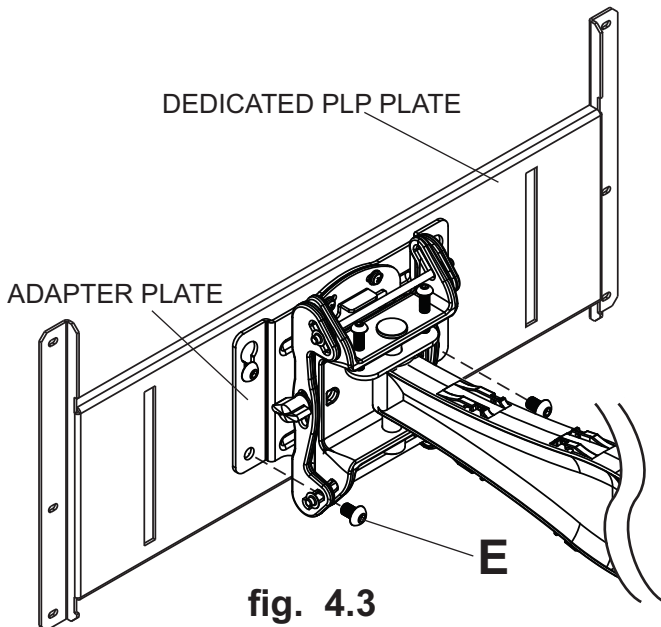

fig. 4.3
**4-1** Insert two M10 x 15 mm screws (E) into bottom holes of adapter plate as shown in figure 4.3 or 4.4. Tighten all fasteners with 6 mm allen wrench (H).